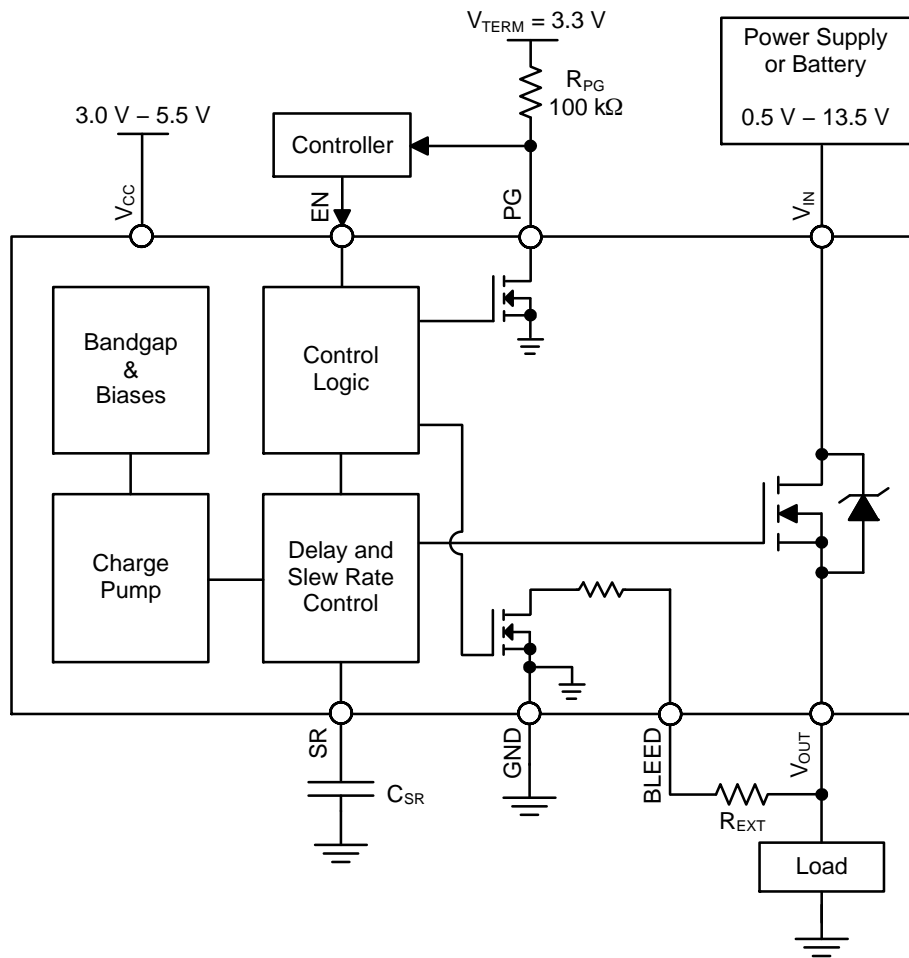
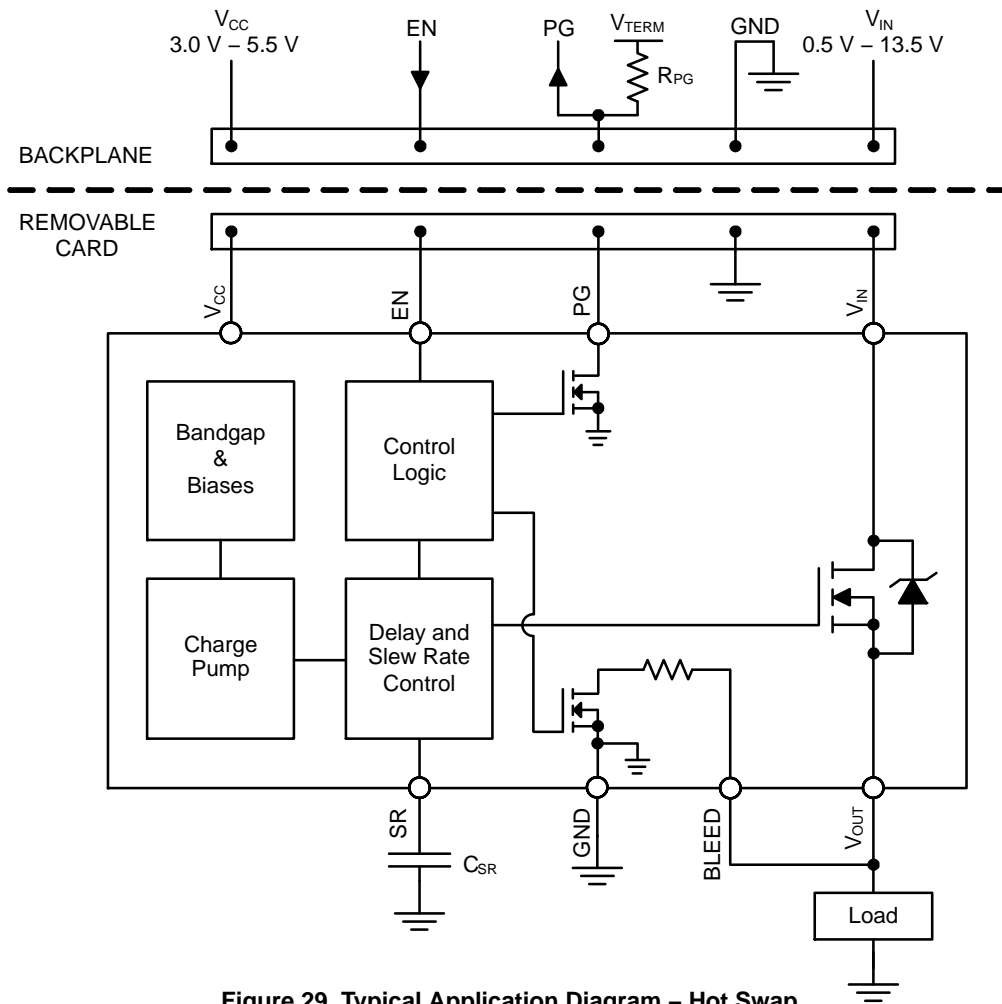

Figure 28. Typical Application Diagram – Load Switch
Figure 29. Typical Application Diagram – Hot Swap
It is required that the BLEED pin be connected to V_{OUT} either directly (as shown in Figure 29) or through an external resistor, R_{EXT} (as shown in Figure 28). R_{EXT} should not exceed 100 M Ω and can be used to increase the total bleed resistance and decrease the load bleed rate.
The NCP45541 devices have a power good output (PG) that can be used to indicate when the gate of the MOSFET is fully charged. The PG pin is an active–high, open–drain output that requires an external pull up resistor, R_{PG} , greater than or equal to 1 k Ω to an external voltage source, V_{TERM} , compatible with input levels of other devices connected to this pin (as shown in Figures 28 and 29).
The slew rate can be decreased with an external capacitor added between the SR pin and ground (as shown in Figures 28 and 29). With an external capacitor present, the slew rate can be determined by the following equation: